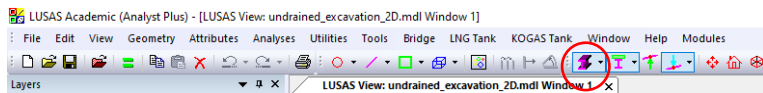

Figure 72: Toggle fleshing icon
- The fleshing of the wall is still visible so switch the fleshing off by clicking the fleshing icon (figure 72).